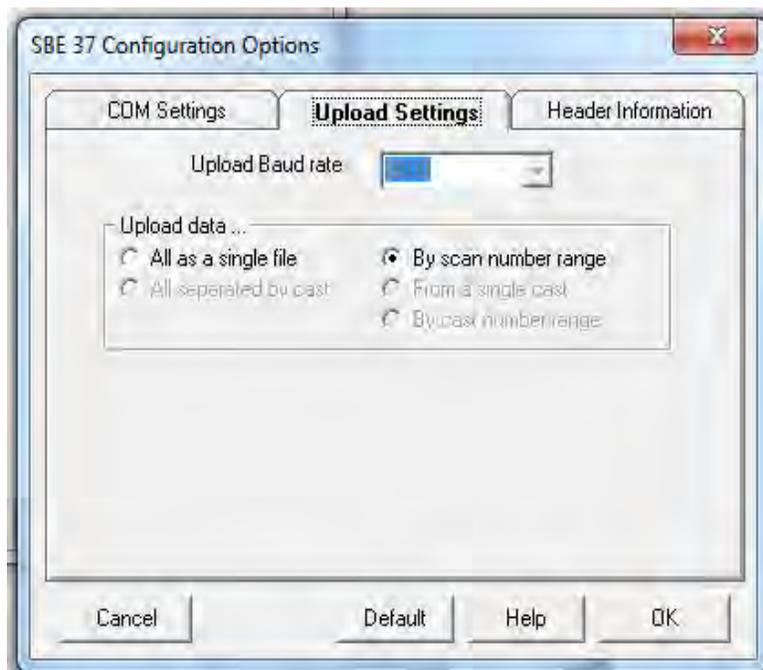

Figure 18. Image of Upload Settings tab within the SBE 37 Configuration Options box.
5. In the **Upload Settings** tab, confirm (Figure 18):